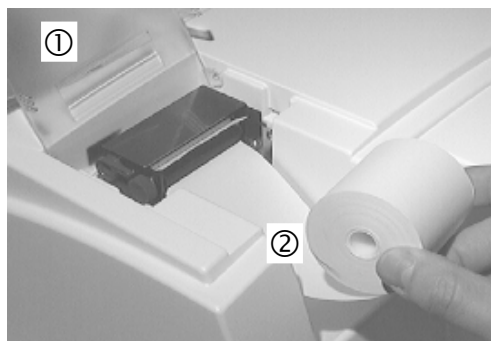

Fig. 34
7. Insert the roll of printer paper as shown in Figs 34 to 37. (refer to Section 4.5).
1. Open the printer cover ① (Fig. 34).
2. Remove the old core and any remaining paper ② (Fig. 34).
3. Place a new roll of paper in the printer paper compartment (**with the end of the paper pointing downwards and towards the printer**) ② (Fig. 34).